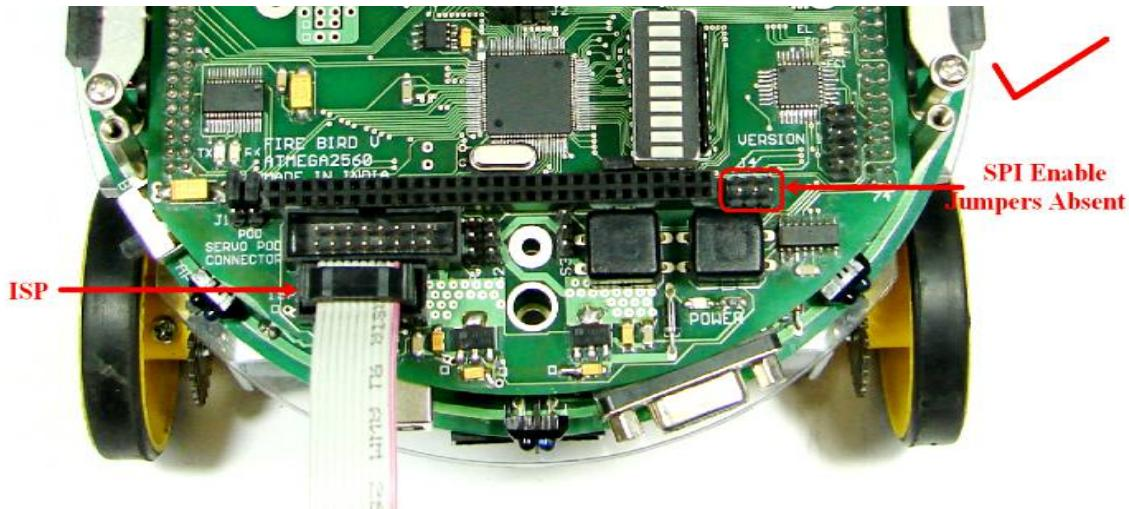
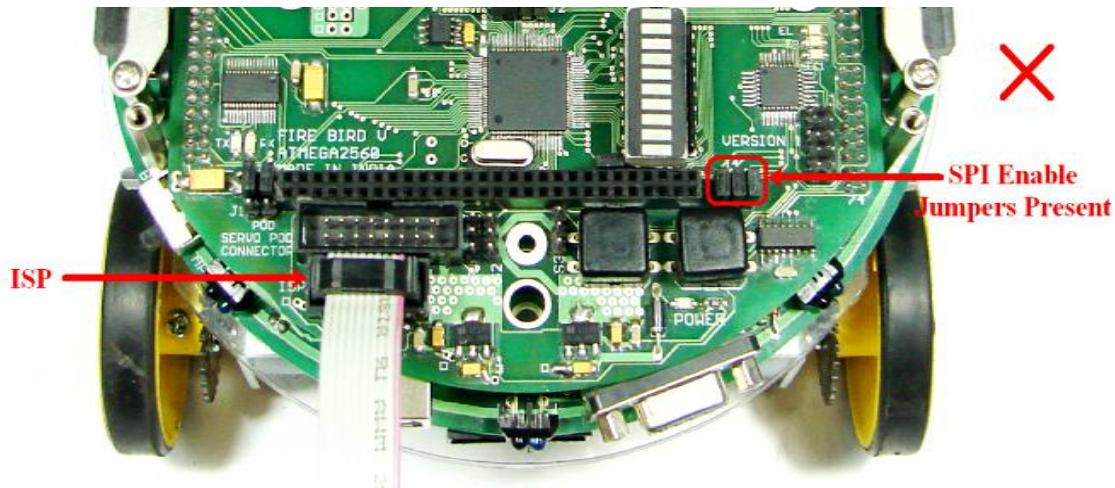
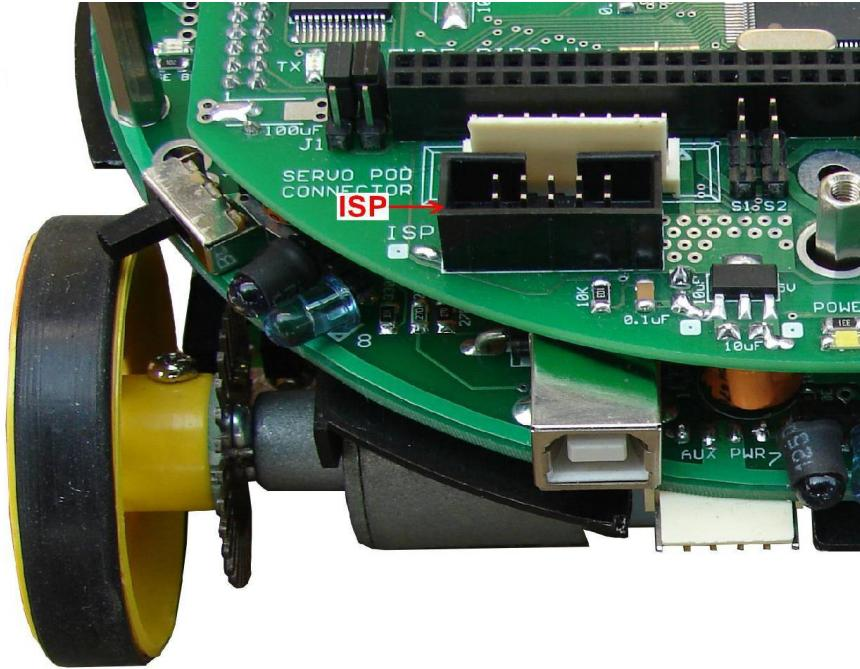

Figure 2.38: Correct jumper setting before proceeding to ISP
Figure 2.39: Incorrect jumper setting before proceeding to ISP
Figure 2.40: ISP socket on the ATMEGA2560 microcontroller adaptor board
Refer to figure 2.38 and 2.39 for the correct jumper settings before proceeding to ISP. Figure 2.40 shows the ISP socket for the ISP programming.
2. Before loading hex file or reading fuse settings ensure that jumpers at J4 are open as shown in figure 2.38 and are not as shown in figure 2.39.